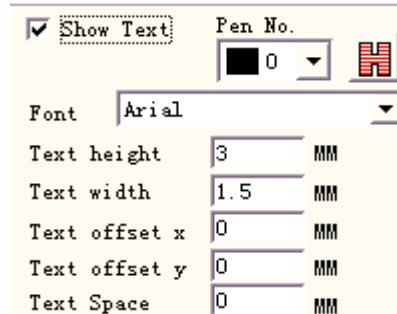

Figure 4-15 Show Text
**Top** means the top of the text is superposition with the curve, as fig 4-15.
Fig 4-15 top arrange
Whether to show a corresponding text under the barcode (Figure 4-15)